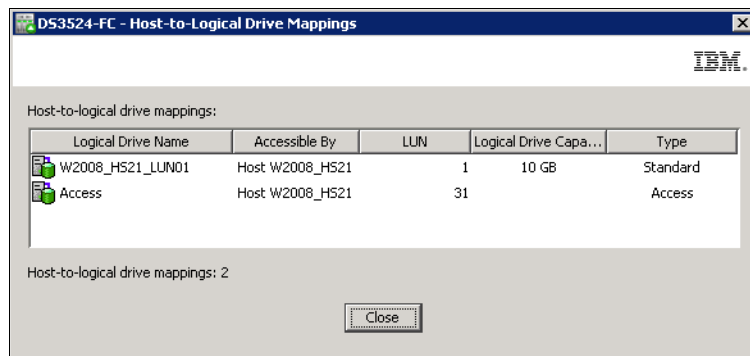

Figure 7-12 Hosts & Mappings - Host-to-Logical Drive Mappings
**Host-to-Logical Drive Mappings** is the second link in this box. Next to the link you see the number of logical drives that are already mapped. This means the number of logical drives that are allowed to be seen by a specific host. Opening the link displays a more detailed view (Figure 7-12).